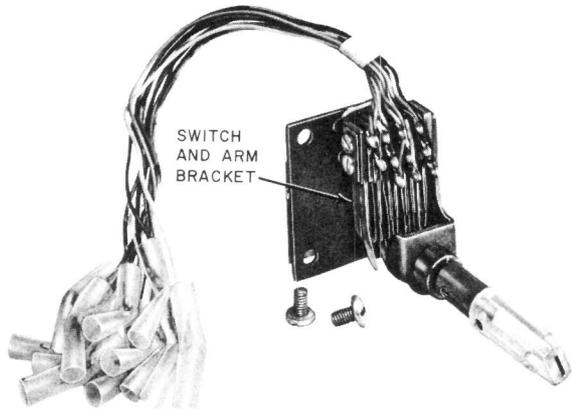

Fig. 12—D-180384 Kit of Parts
3.13 Install the two-line service feature (D-180384 Kit of Parts, Fig. 12) in the 526B telephone set as follows: